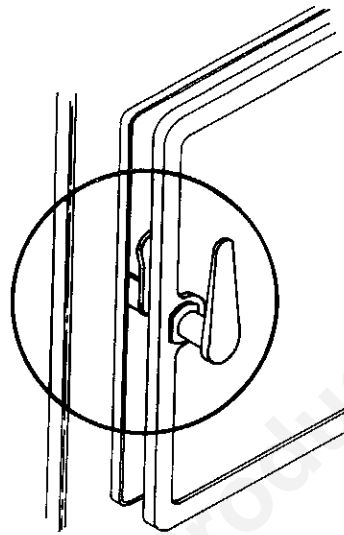

FIG. 15
2. Turn handle clockwise to the 12 o'clock position, pull the door open until you engage the second step. (Fig. 15).